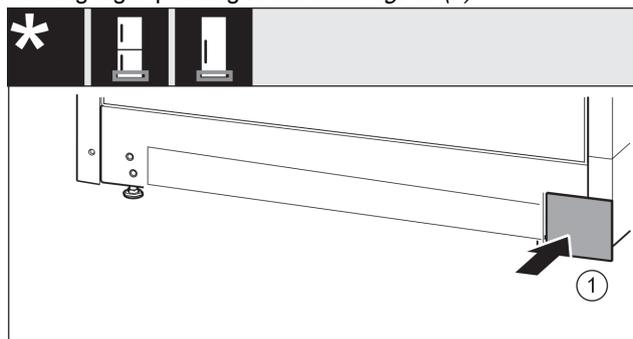

Fig. 17
- ▶ Put the cover back on the other side. Fig. 17 (1)